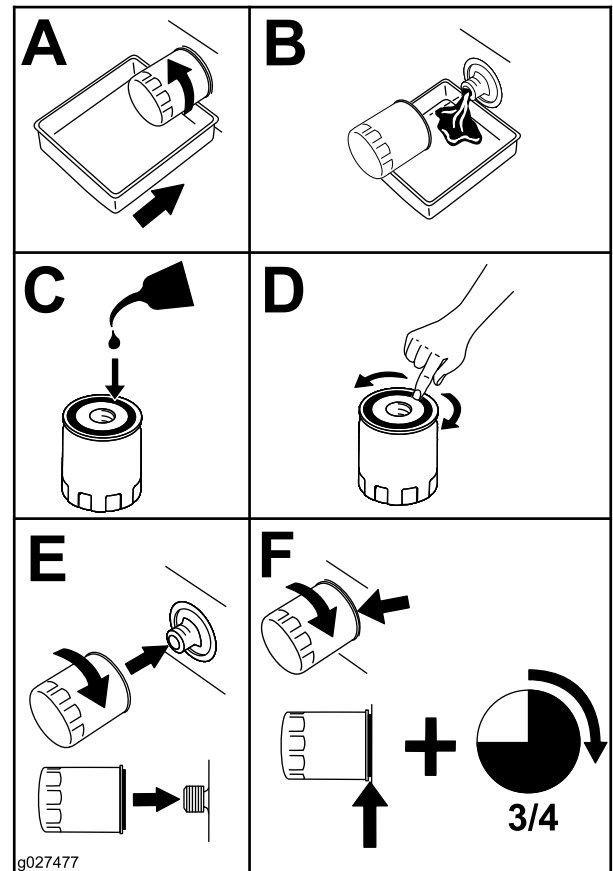

Figure 70
- Change the engine-oil filter (Figure 70).